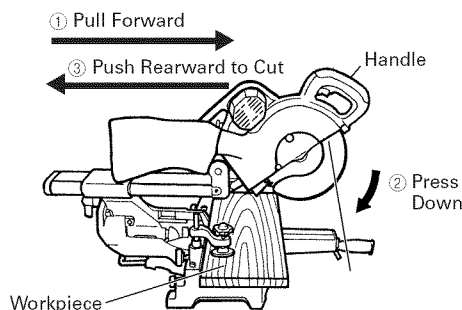

Fig. 30
- (1) Workpieces up to 3-11/32" (85mm) high and 12-9/32" (312mm) wide: Loosen the slide securing knob (see Fig. 2), grip the handle and slide the saw blade forward. Then press down on the handle and slide the saw blade back to cut the workpiece as indicated in Fig. 30. This facilitates cutting of workpieces of up to 3-11/32" (85mm) in height and 12-9/32" (312mm) in width.
- (2) Workpieces up to 3-9/16" (90mm) high and 11" (280mm) wide: Workpieces of up to 3-35/64" (90mm) in height and up to 11" (280mm) in width can be cut in the same manner as described in paragraph 6-(1) above.
- * For slide cutting, follow the procedures indicated above in Fig. 30. Forward slide cutting (toward the operator) is very dangerous because the saw blade could kick upward from the workpiece. Therefore, always slide the handle away from the operator.